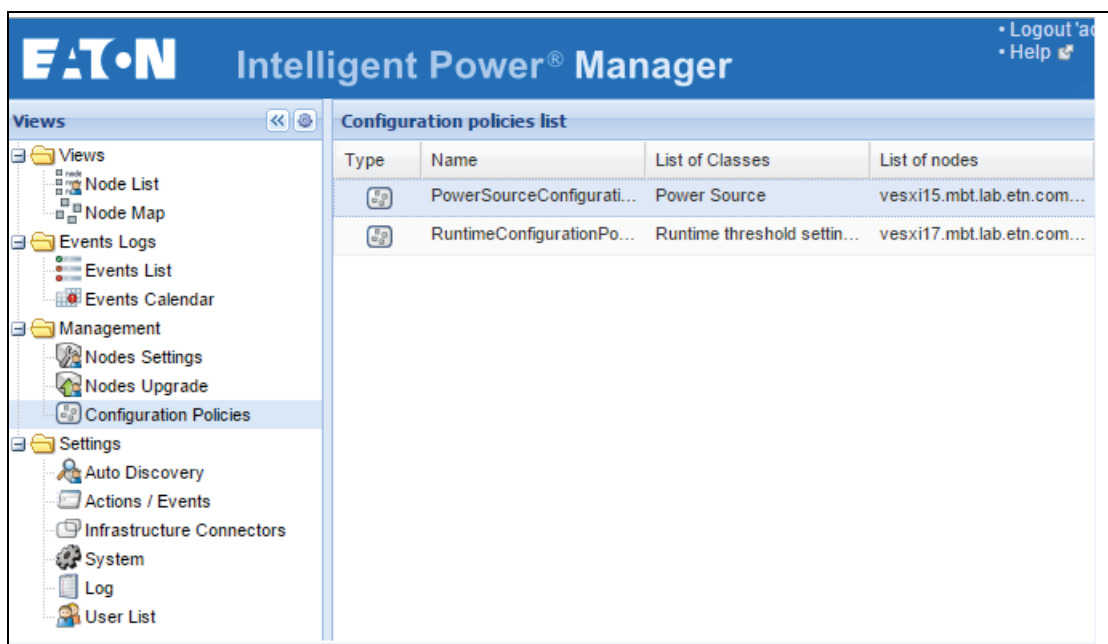

Figure 260. Configuration Policies List
7. Copy the configuration policy and modify the Nodes List and the configuration policy settings to match your environment constraints (see Figure 260).